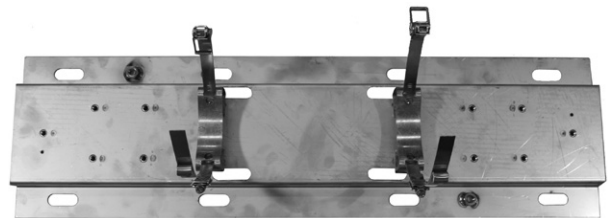

Figure 11. Quick release brackets on base
7. Repeat assembly for the second set of base bracket and clamp straps. See Figure 11.